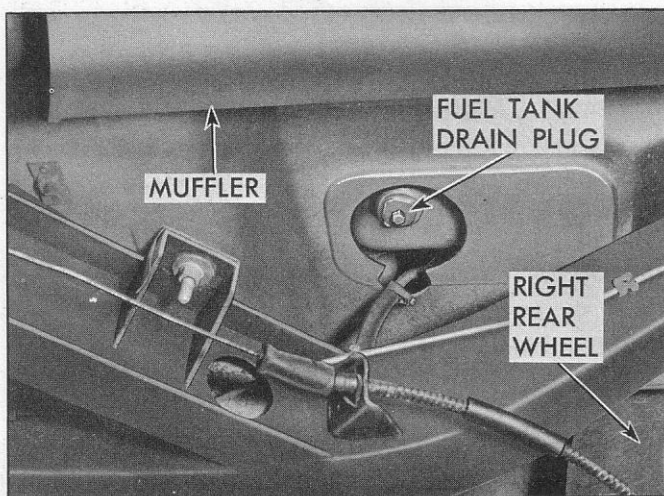

Fig. 3—Fuel Tank Drain Plug
1. Drain fuel tank—drain plug accessible under car (fig. 3).